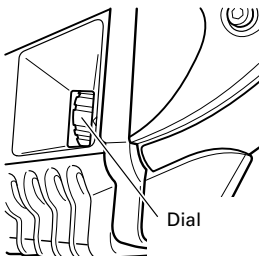

Fig. 8
8. Select the number of strikes (Fig. 8)